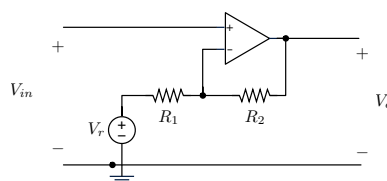

Figure 2: Circuit for Question A.3.b).
A.3.b) Consider the amplifier circuit in Fig. 2, where $R_1 = 100\Omega$, $R_2 = 200\Omega$, and $V_r = 2V$. Assuming an ideal OpAmp and sufficiently large supply voltages and using Ohm's and Kirchoff's laws, derive the expression for the output voltage V_o as a function of V_{in} . (4 pt)